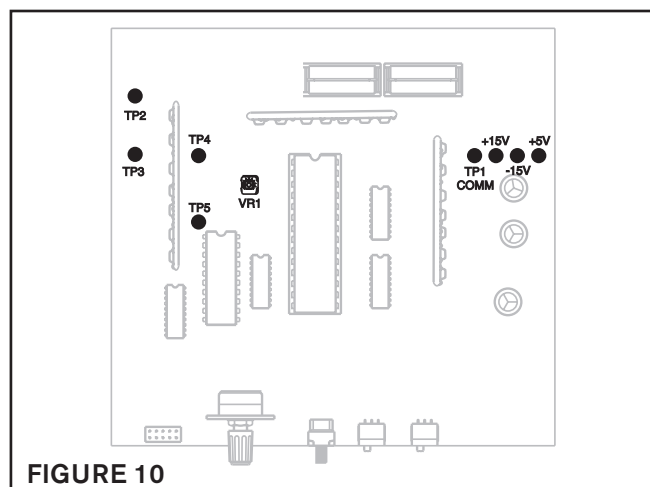

FIGURE 10
4. Locate VR1 on the main printed circuit board (See Figure 10).